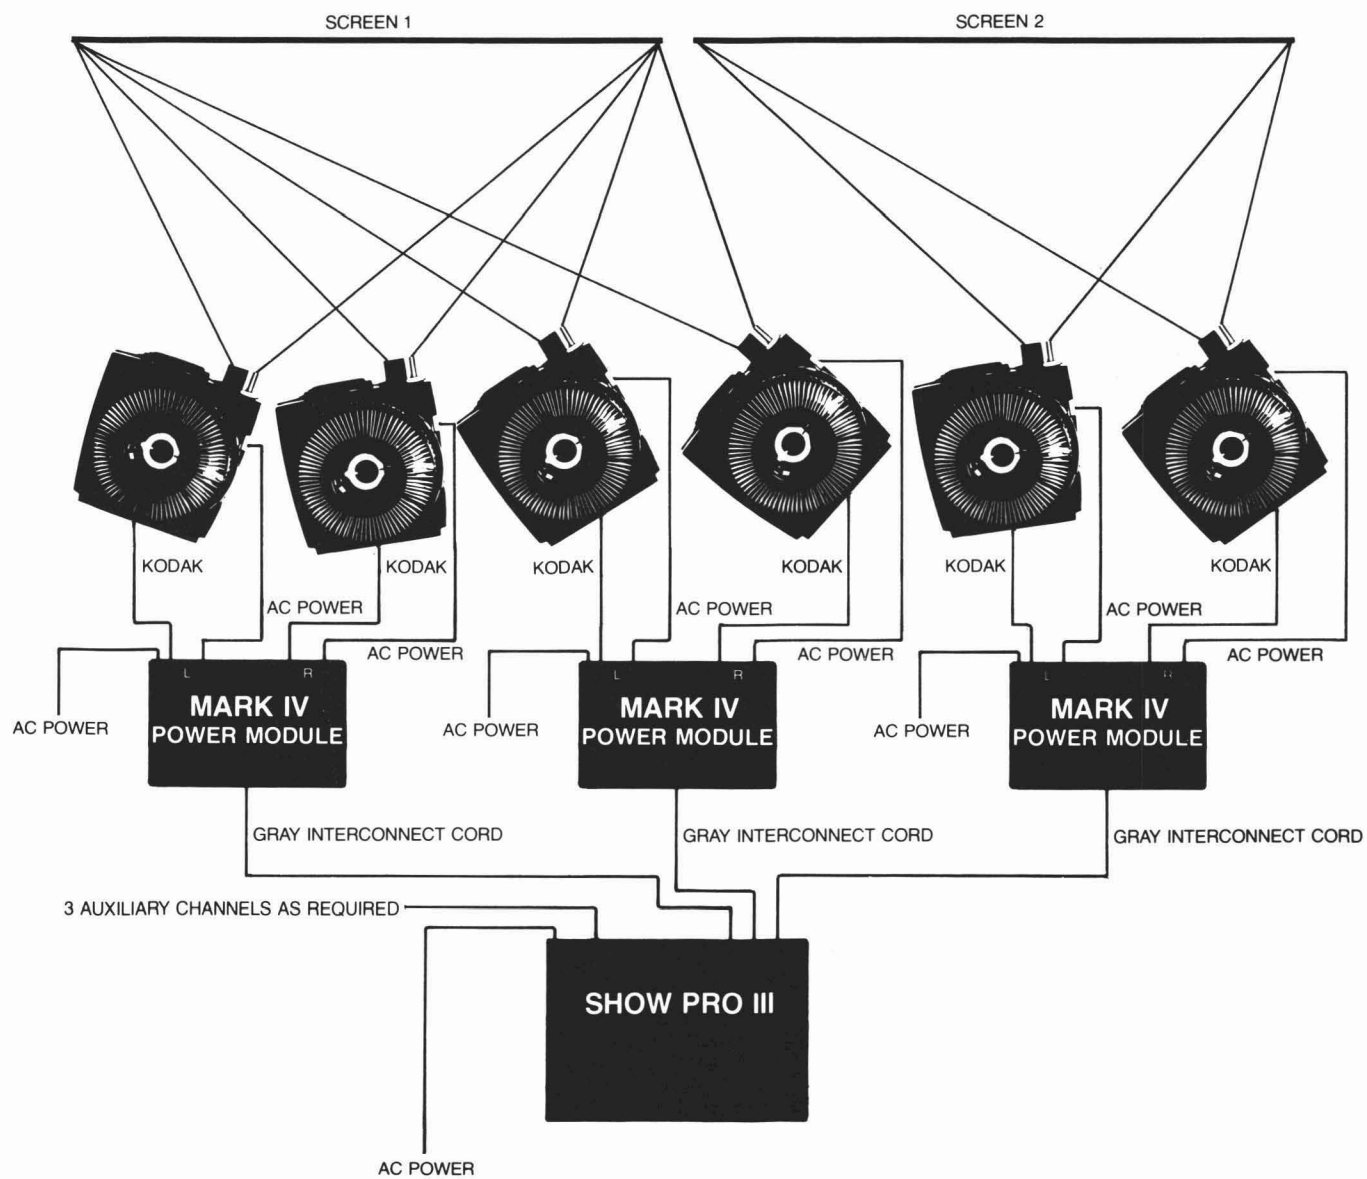

Figure 3
- Two screens with four projectors on one, two projectors on the other **(Figure 3, page 11)**